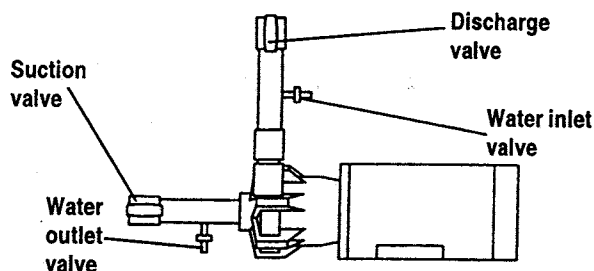

FIGURE 4
11. When pumping liquids that may solidify or crystallize, a flush system should be added to the piping. See Figure 4. Install water inlet and outlet valves as shown.